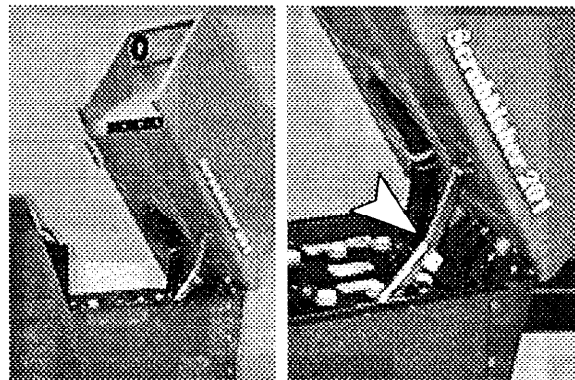

FIG. 2.
2. Carefully hinge open recovery tanks to access battery compartment. Engage scissor latch to support tanks. Remove accessories from compartment. (Figure 2)